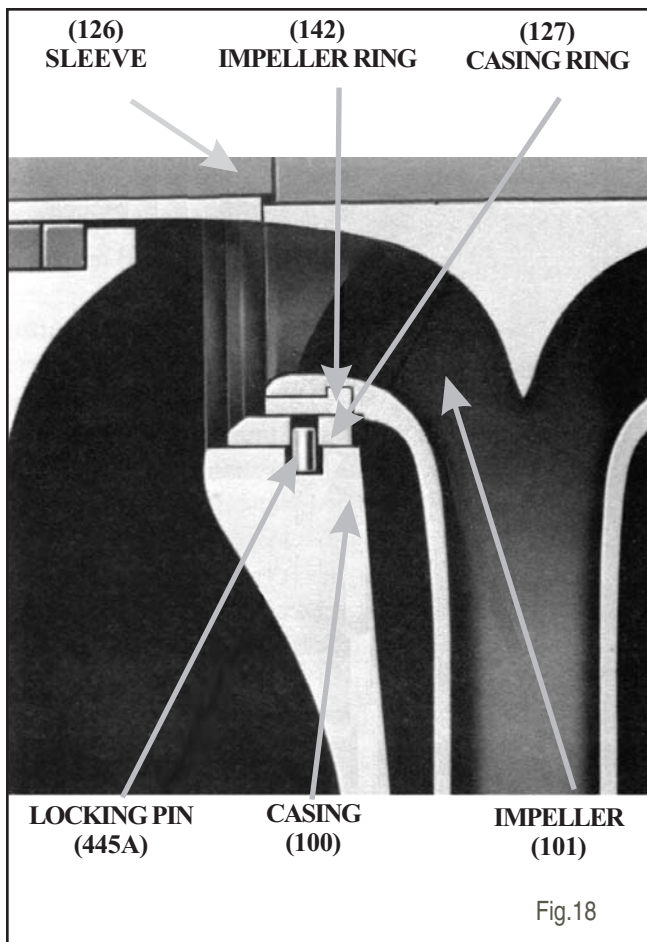

Fig. 18
NOTE: For impellers with replaceable rings — remove the rings (142) by cutting the rings with a cold chisel. (See Fig. 18)